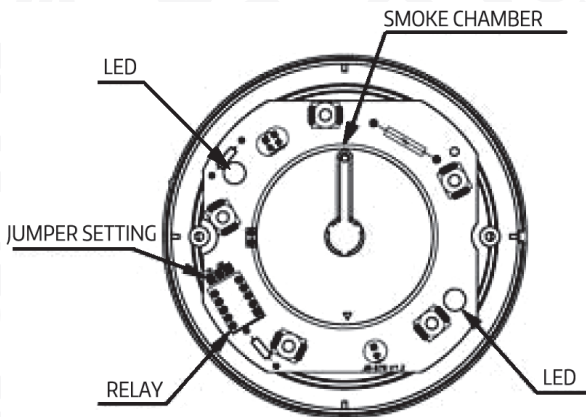

Fig. 4. Inner construction of the device
2. Change the position of the jumper placed next to the relay (fig. 4).